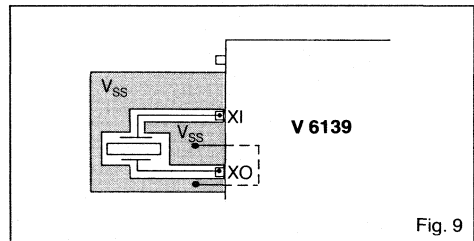

Fig. 9
- Fig. 9 shows the recommended layout.